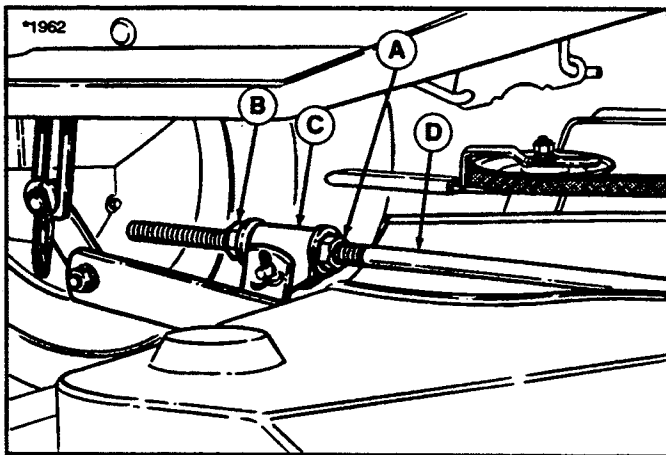

Figure 37. Leveling The Mower Front-To-Back
8. See figure 37. To raise front of mower deck, loosen front nut (A) and turn rear nut (B) against bracket (C) to shorten rod (D).
9. To lower front of mower deck, loosen rear nut (B) and bracket (C) will move backwards to lengthen rod.
10. Re-check measurement before tightening front nut (A) against bracket.